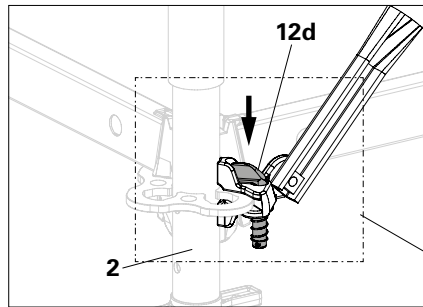

Fig. A2.20d
→ Node Brace UBK (12) is now positioned. (Fig. A2.20d)